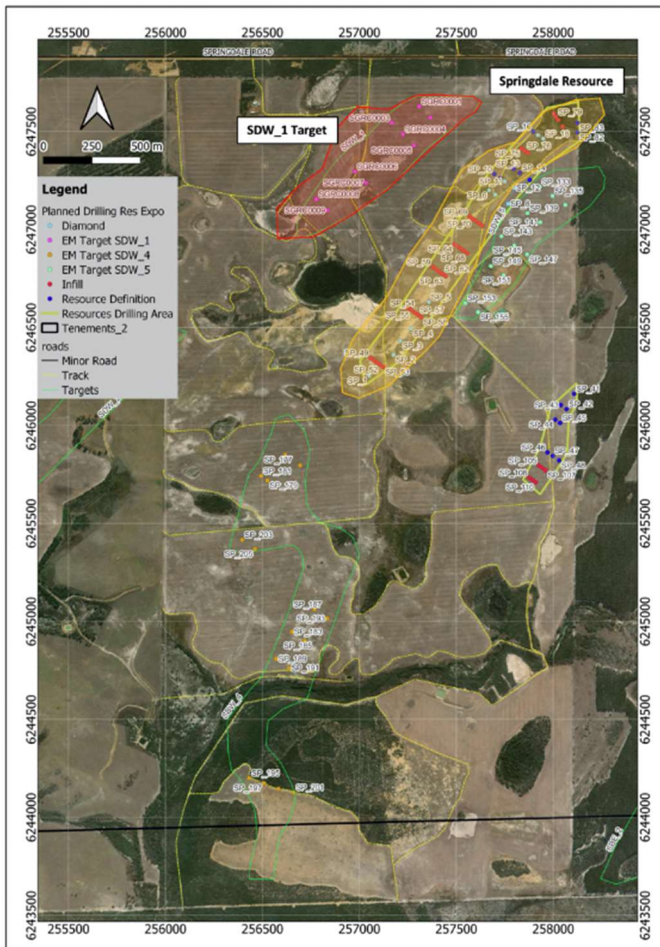

Figure 3: Drill collar for current and planned drilling
- The current drilling program comprises 54 RC drillholes (3,300m) and 12 diamond holes (900m) to infill the existing Springdale mineral resource, provide additional samples for ongoing metallurgical testwork, and data for initial geotechnical assessments and mine planning. In addition, 37 RC holes (3,000m) will be drilled to test a number of high priority exploration targets (Figure 3).